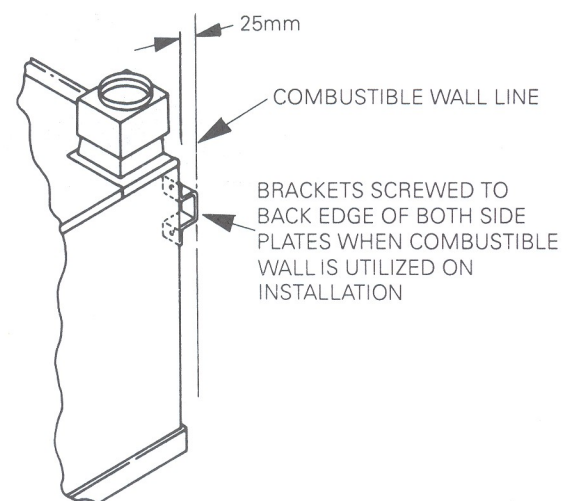

Fig.4 - Clearance Between Cooker and Combustible Wall
2. Appliance Rear Distance Bracket - (For use when appliance is installed 25mm (1in) away from a rear wall of combustible material.) See Fig 4.
NOTE: IF THE REAR WALL IS OF COMBUSTIBLE MATERIAL, THERE MUST BE AN AIR GAP OF 25mm (1in) BETWEEN THE WALL AND REAR OF APPLIANCE. FIT REAR DISTANCE BRACKET AS SHOWN IN FIG.4.